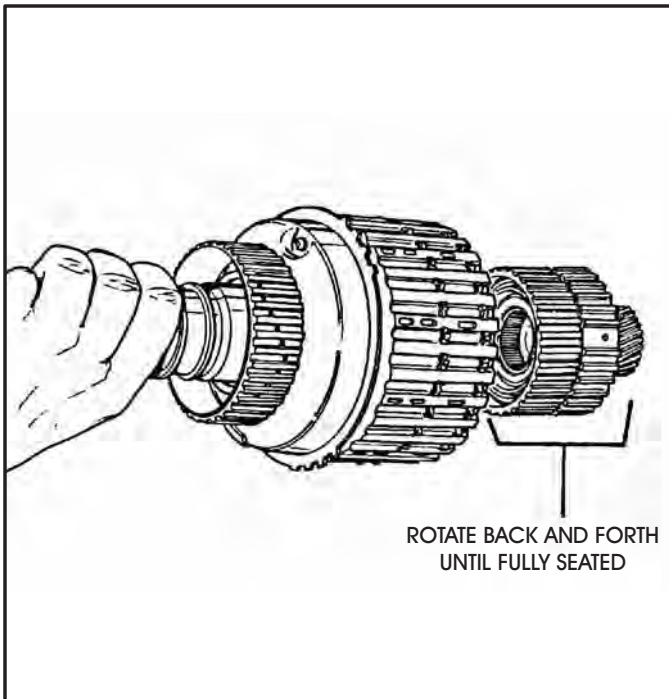

Figure 178
27. Lay the preassembled input/3rd clutch housing on its side, as shown in Figure 178, and install the preassembled sprag and roller clutch into input housing by rotating back and forth until they are fully seated.